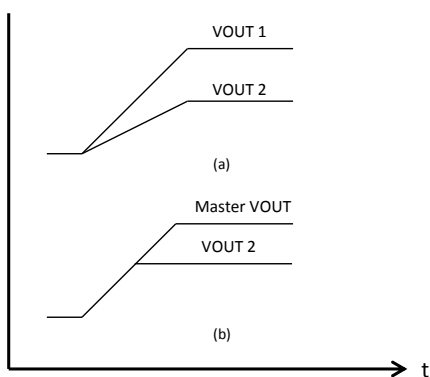

Figure 5 - PI33XX-X1 tracking methods
There is typically either proportional or direct tracking implemented within a design. For proportional tracking between several regulators at startup, simply connect all devices TRK pins together. This type of tracking will force all connected regulators to startup and reach regulation at the same time (see Figure 5 (a)).
All connected regulators' soft-start slopes will track with this method. Direct tracking timing is demonstrated in Figure 5 (b). All tracking regulators should have their Enable (EN) pins connected together to work properly.